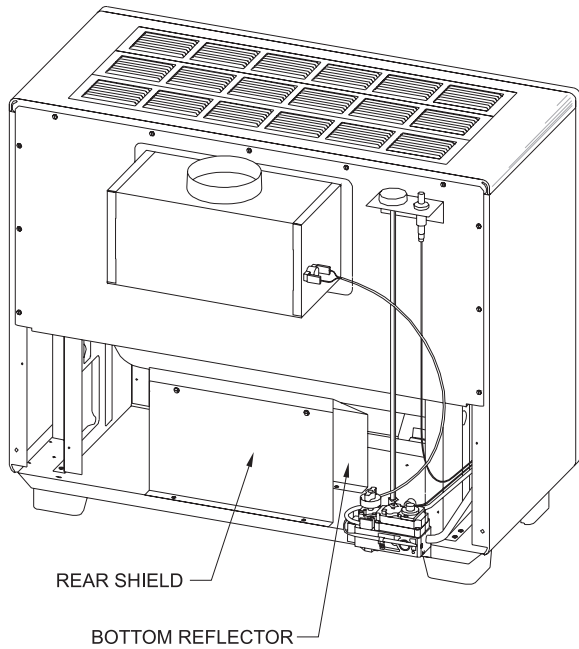

Figure 7
1. Remove rear shield (2 screws) and bottom reflector (4 screws). **See Figure 7.**